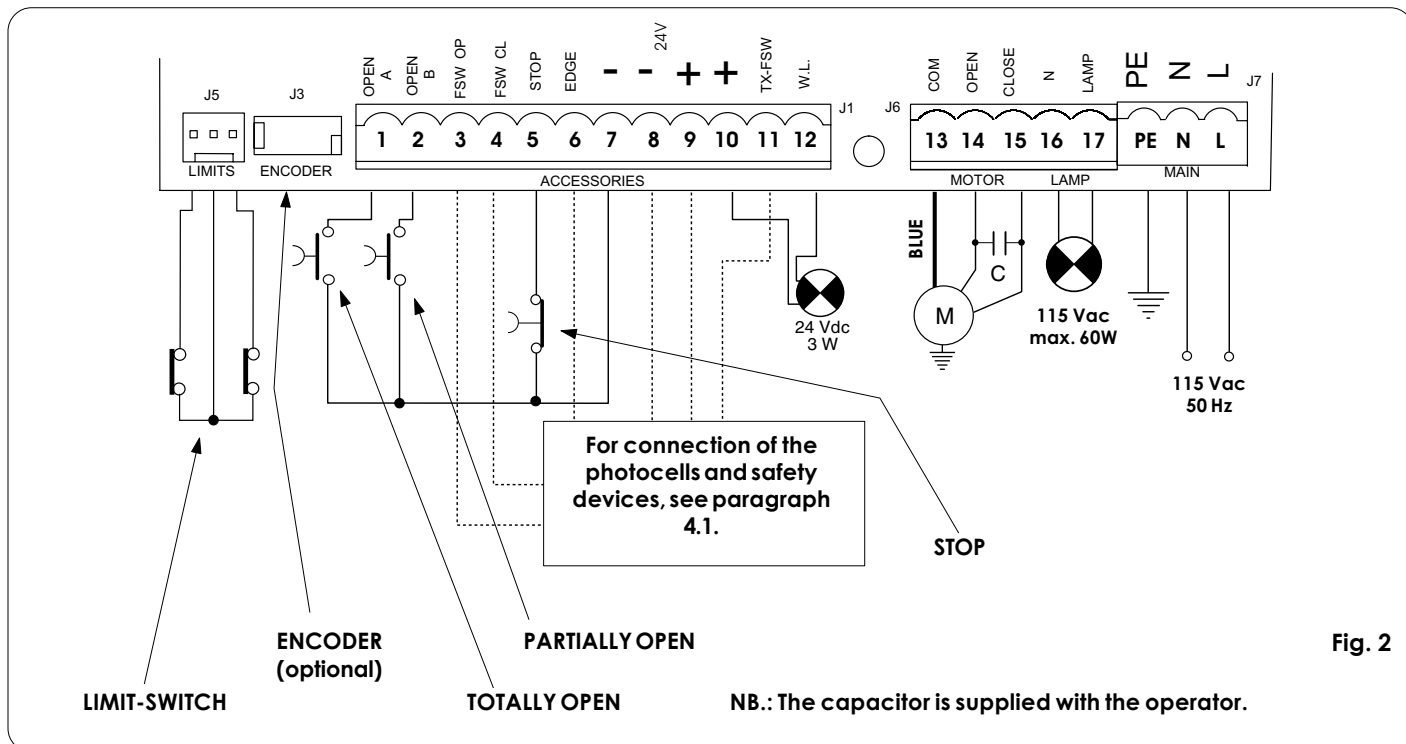

Fig. 2
- Connect the earth cable to the appropriate terminal on the J7 connector of the equipment (see fig.2).
4.2. J7 Terminal board - Power supply (fig. 2)
4.3. J6 Terminal board - Motors and flashing lamp (fig. 2)
4.4. J1 Terminal board - Accessories (fig. 2)
4.6. Connector J6 - Limit-switches rapid connection (fig.2)
This input is intended for rapid connection of the opening and closing limit-switches designed to stop the leaf, or for start of decelerations or for braking (see advanced programming in Chpt. 5.2.). In gearmotors with a built-in control unit, this connection is pre-wired as standard (fig. 2). For leaf opening direction, see advanced programming in Chpt 5.2.
4.7. Connector J3 - Encoder rapid connection (fig.2)